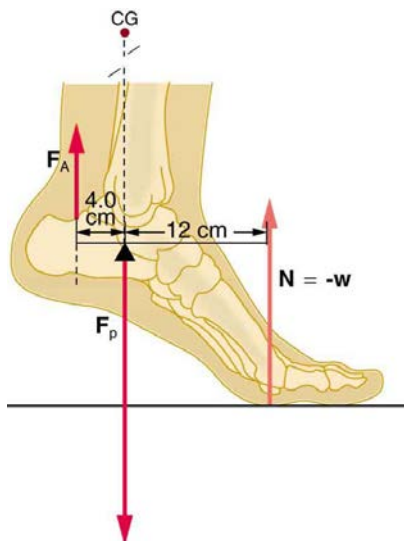

Figure 9.42 The muscles in the back of the leg pull the Achilles tendon when one stands on one's toes. A simplified lever system is shown.
33. A 75-kg man stands on his toes by exerting an upward force through the Achilles tendon, as in **Figure 9.42**. (a) What is the force in the Achilles tendon if he stands on one foot? (b) Calculate the force at the pivot of the simplified lever system shown—that force is representative of forces in the ankle joint.